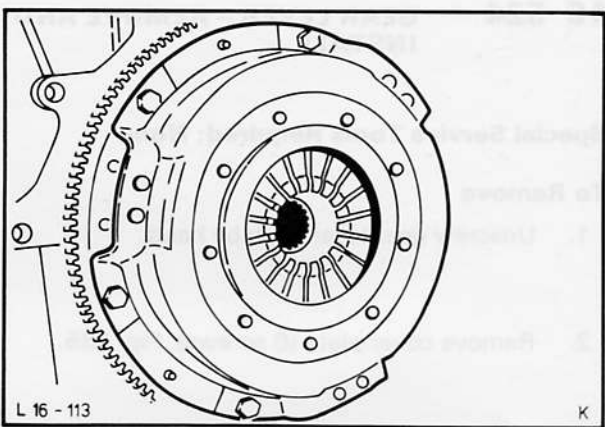

Fig. 132. Remove clutch pressure plate
1. Release clutch pressure plate from flywheel, slackening the 6 bolts evenly, and remove, Fig. 132. Detach pressure plate and clutch disc.